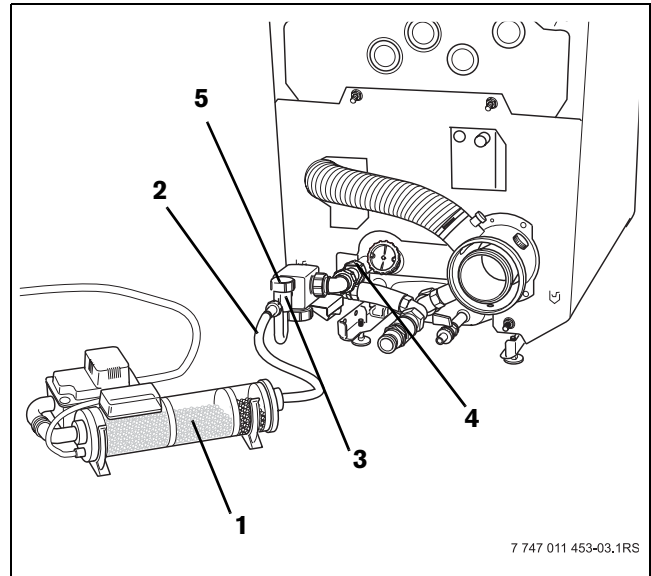

Fig. 22 Rear of the boiler with condensate siphon and neutralizer
- Install the nut on the boiler condensate drain (Fig. 22, [4]).